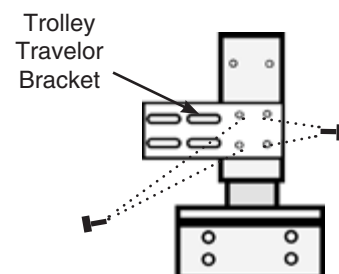

Figure 8
Fasten the trolley traveler bracket to the trolley slide using (4) 5/16" x 3/4" hex head bolts and lock washers, use anti-seize on these bolt threads! (Figure 8)